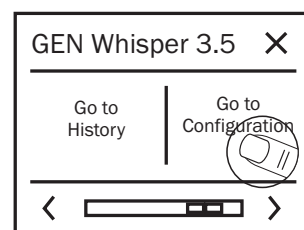

Figure 7
- 3 Figure 7: Touch on the "Go to Configuration" field. Then "Device Settings" is shown.